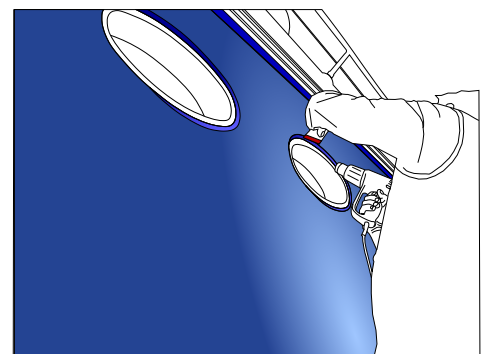

Figure 05
- › While continuing to heat the film, run (your thumb or the squeegee) around the convex shapes or press it with your thumb into the hollow of the undulation from both sides so as to properly stick the adhesive against the substrate. (FIG. 05)